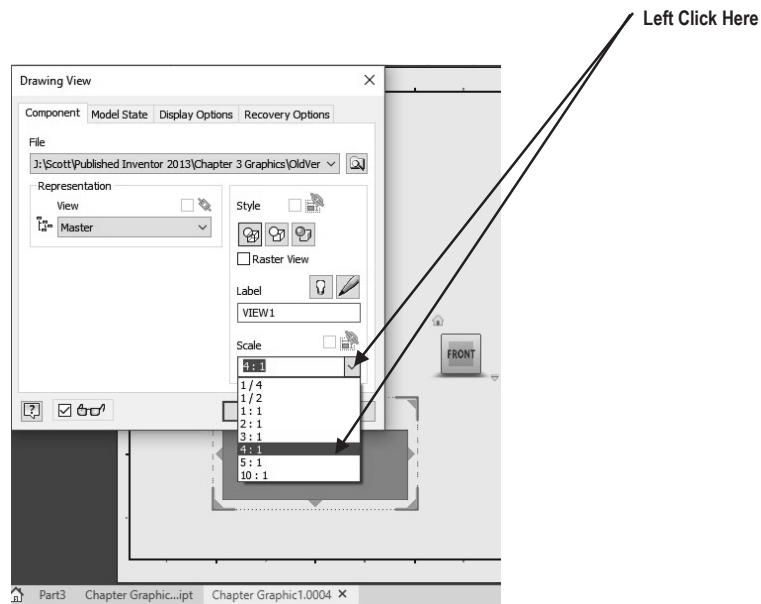

Figure 15
19. Left click on the **Scale** drop-down box and set the drawing scale to **4:1** (if it is not already set to 4:1). The size of the wedge block will become larger as shown in Figure 15. Left click on **OK**.